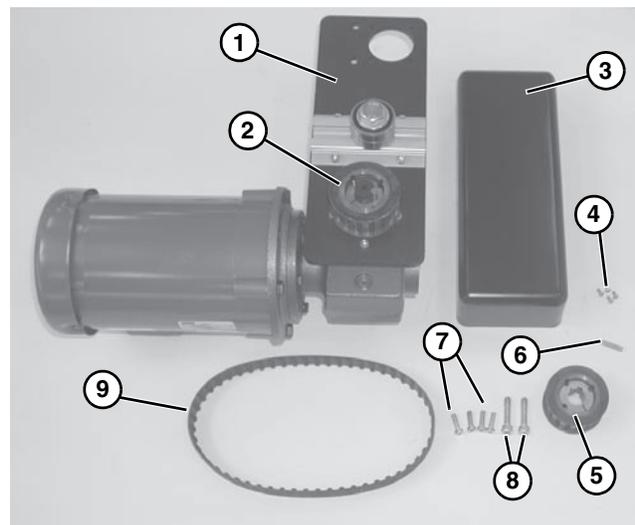

**Figure 2**
For Cleated Belt Conveyors, Gearmotors must be mounted as shown in Figure 2. Failure to do so creates pinch points which can cause severe injury.
*Gearmotor position on Flat Belt conveyor shown below left, **Figure 2**. Gearmotor position on Cleated Belt conveyor shown below right, **Figure 2**.*